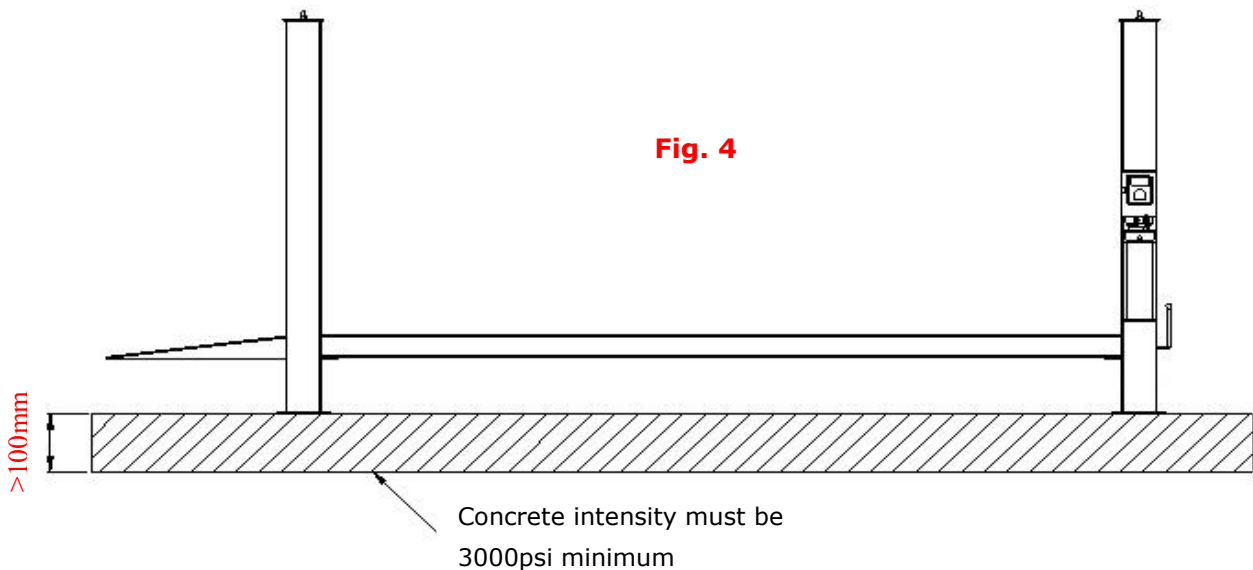

Fig. 4
D.SPECIFICATIONS OF CONCRETE (See Fig. 4)